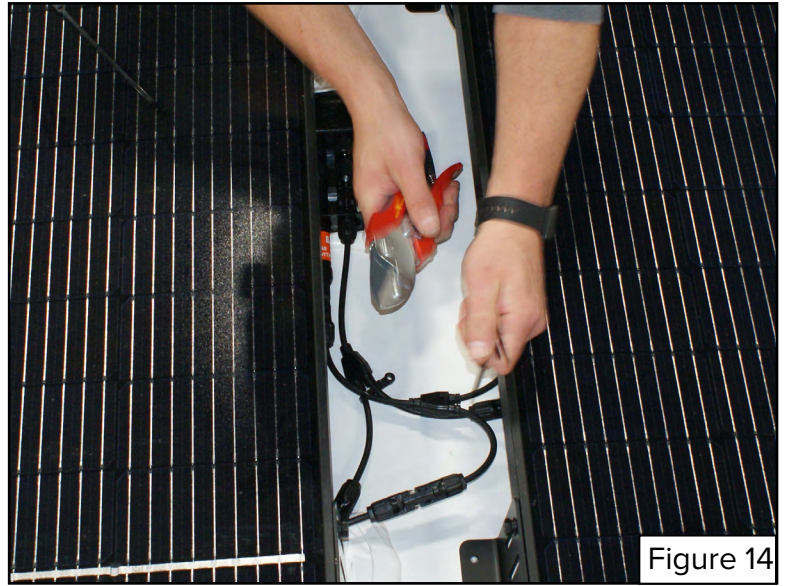

Figure 14
11. Using wire cutters or utility snips, trim off the excess cable tie (Figure 14).